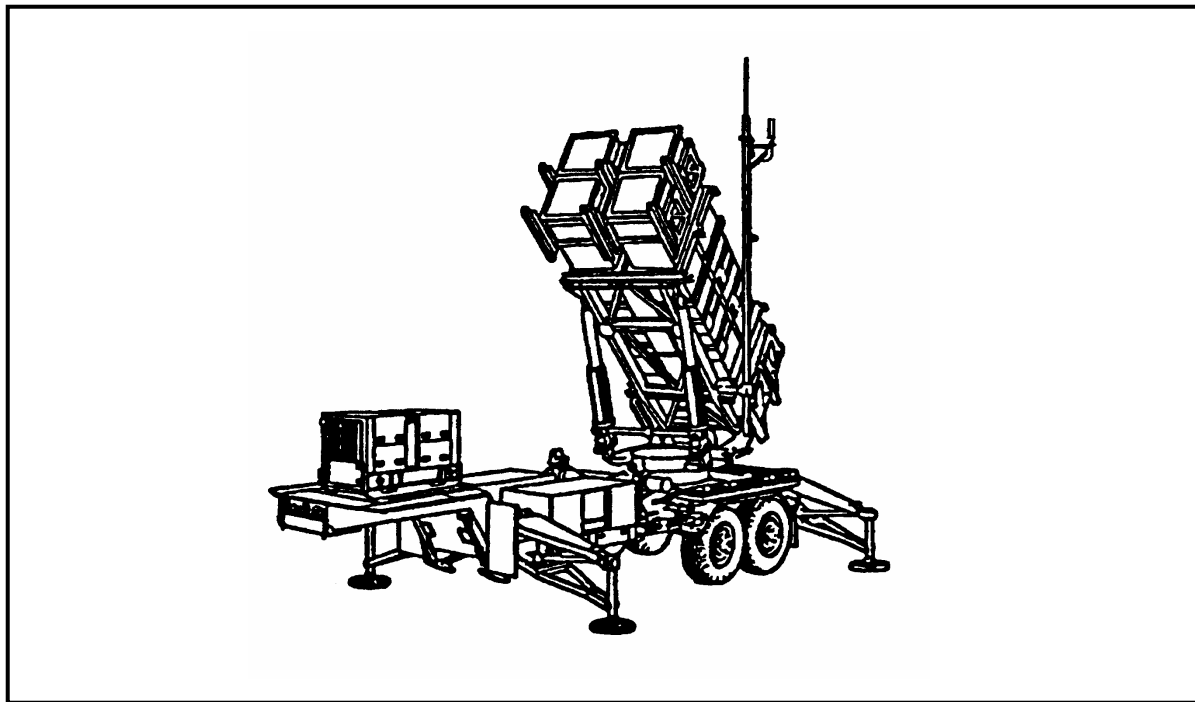

Figure 2-1. LS Emplacement.
ILLUSTRATIONS: Figure 2-1.
(1) Using a diagram, Figure 2-1, a sand table, or a simple sketch in the dirt, show the crew members how the LS should be emplaced.
(2) Tell the crew members what their duties are in the drill.
(3) Read the performance measures of the drill to the crew members.
(4) Have crew members explain their performance measures to ensure that they understand them.